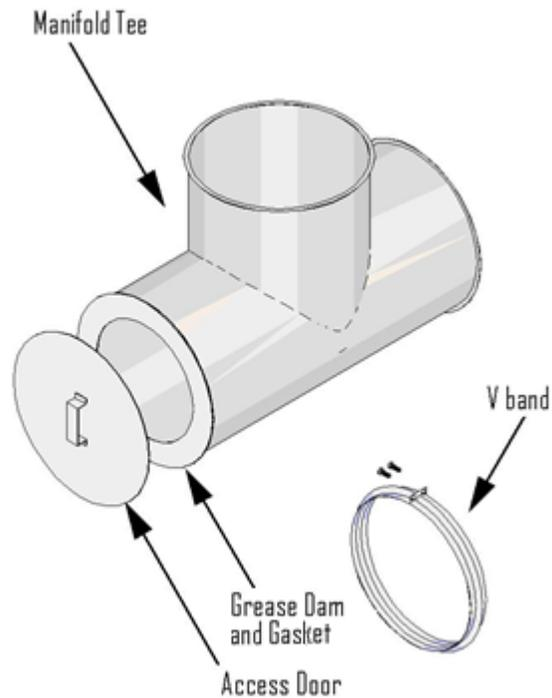

Figure 2. Access Door Assembly
- B. ACCESS DOOR – When required, use the duct manufacturer’s manifold tee and access door (tee cap) assembly (see Figure 2). Apply a 1/4 in. continuous bead of sealant (Item 2A) to the flange of the tee on the side where access door is to be located. Center the supplied grease dam over the opening of the tee. Verify that the grease dam is sealed to the tee flange by applying pressure. Remove excess sealant (Item 2A). Apply